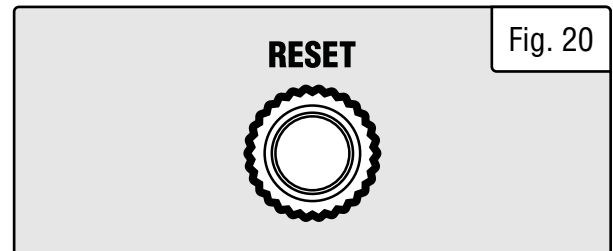

Fig. 20
- When you've overloaded the generator, the overload light will stay on and the reset button (Fig. 20) will activate to cut off the output in 3 to 16 seconds, depending on the load. Reduce the load by turning off and disconnecting your electrical device(s) until the overload light turns off. Wait about five minutes and then press the activated reset button to reset the circuit. If no power is produced after resetting, turn off and disconnect all electrical devices and restart your generator.